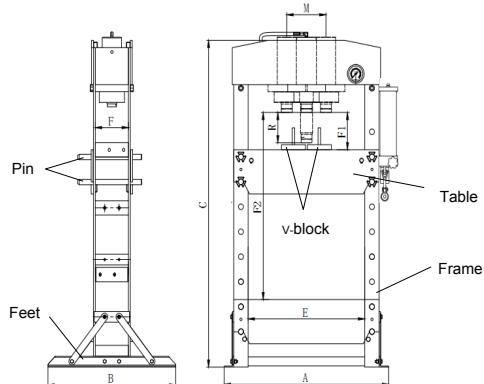

Fig.02
- The feet are fixed to the chassis using the screws provided, and the tables to the two B axes of Fig.02 which have previously been positioned on the outlets of the columns according to the chosen work height Fig.02. Attach the base section and support to left and right connecting plate using bolt, washer, lock washer and nut.
- During moving the machine, please make sure to use the proper lifting equipment and follow the instructions as shows Fig.02.
WARNING Ensure table at proper position and lock the table by pins firmly. Place the V-block on table, Fig.02, then insert workpiece onto the V-block.